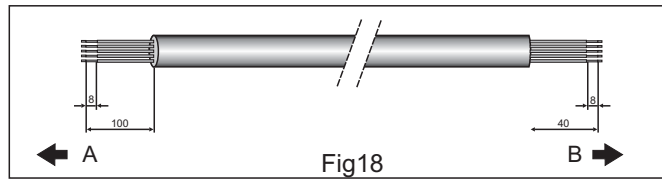

Fig.18 A.OUTDOOR B.INDOOR
2. Prepare the multiple wire(7)cable ends for connection as shown in fig.18.